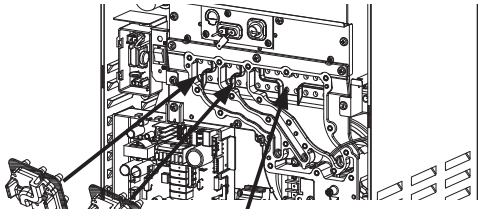

Figure 3
- Refer to Figure 3 and identify the proper location for each LP Gas Manifold Nozzle. The nozzle attachments are of two types: small and large. The smaller nozzle attachments are for the left two sections and the larger one is for the right section.
- Install each LP Gas Manifold Nozzle as shown in Figure 3.